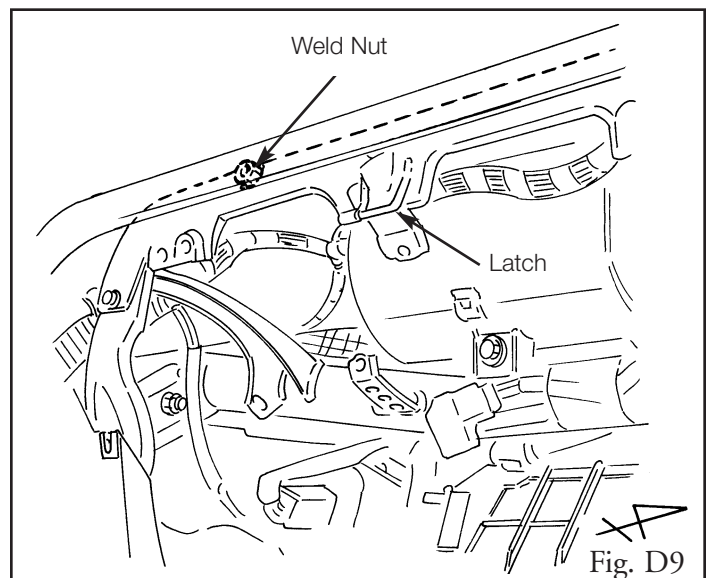

Fig. D9
9. Looking up from the glove box opening, locate the weld nut near the edge of the instrument panel. (Fig. D9)